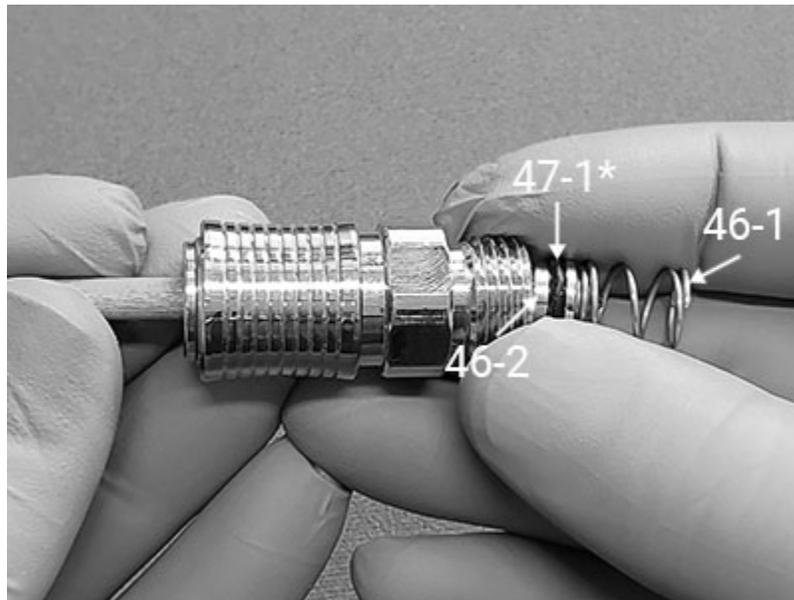

Fig. 55
2. Insert a wooden dowel or blunt brass spade into the BCI Regulator end of the Adapter and push out the Receiver Spring (46-1) and the Receiver (46-2) with its sealing O-ring (47-1*) - Fig. 55. This will release the Collar.